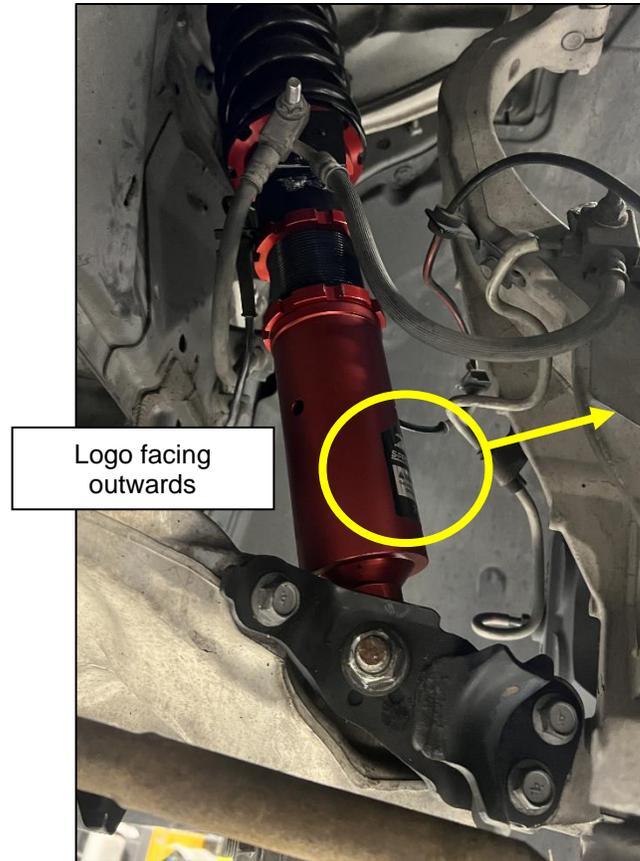

Figure 6
10. Preload the Front Springs. To adjust Spring Preload, loosen the (2) two Collars under the Spring with the Coilover Wrenches. Rotate the Collar ~5mm upwards. Use the Coilover Wrench as a reference as it is 5mm thick. After adjusting the Collars, tighten the (2) two Lock Collars with the Coilover Wrenches.
12. Starting on either side of the vehicle, position the Z1 Coilover into place, with the metallic Z1 Logo facing outwards. *Figure 6.*